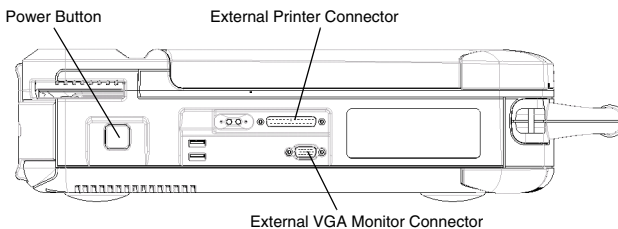

Figure 2. Left side panel of the PRM.
4. (Optional) Connect the external printer to the PRM using the parallel cable provided with the printer (Figure 2). The external printer must be connected and activated to allow external reports to be printed.
5. (Optional) Connect the external monitor to the PRM using a standard VGA cable (Figure 2). The Model 6977 VGA Extension Cable is available from Guidant as an accessory.
4. Press the Power button (Figure 2).
If supported by the software application currently running, an optional external printer can be used. To print reports to an external printer, first connect the printer to the Model 3120 PRM using the parallel cable. The cable connects the external printer to the PRM via the external printer connector (Figure 2). The external printer must be connected and activated to allow external reports to be printed. For more information, see “Optional External Printer” on page 5.